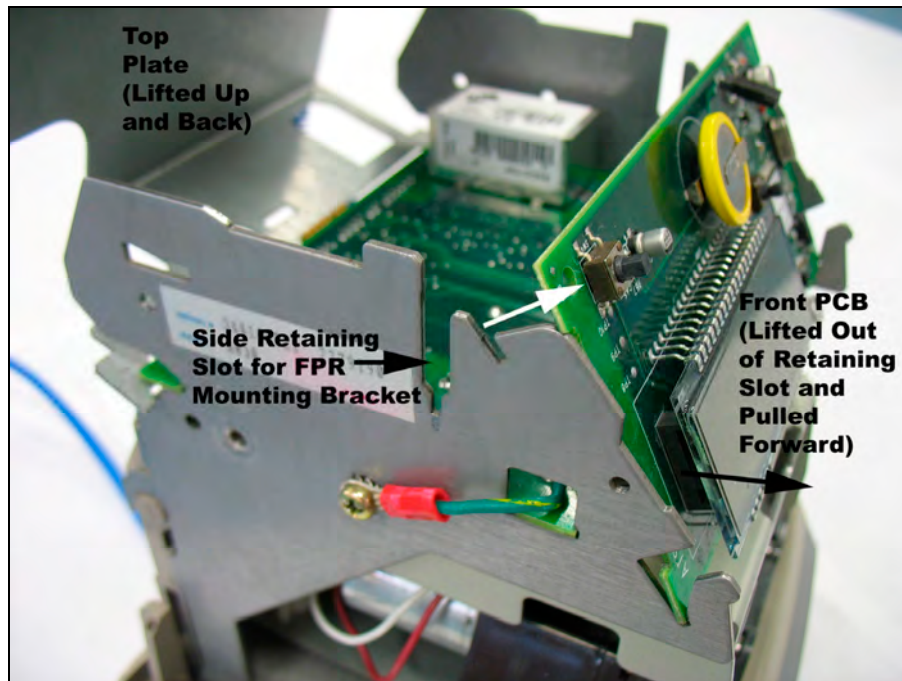

Figure 2. Temporarily Relocate Front PCB.
7. Carefully lift the front PCB up and out of its retaining slot. This is the PCB with the coin battery on it. Just lift the PCB up enough to provide adequate clearance for the FPR mounting bracket to be inserted into its side retaining slots on the right and left sides of the main clock frame (see *Figure 2*).